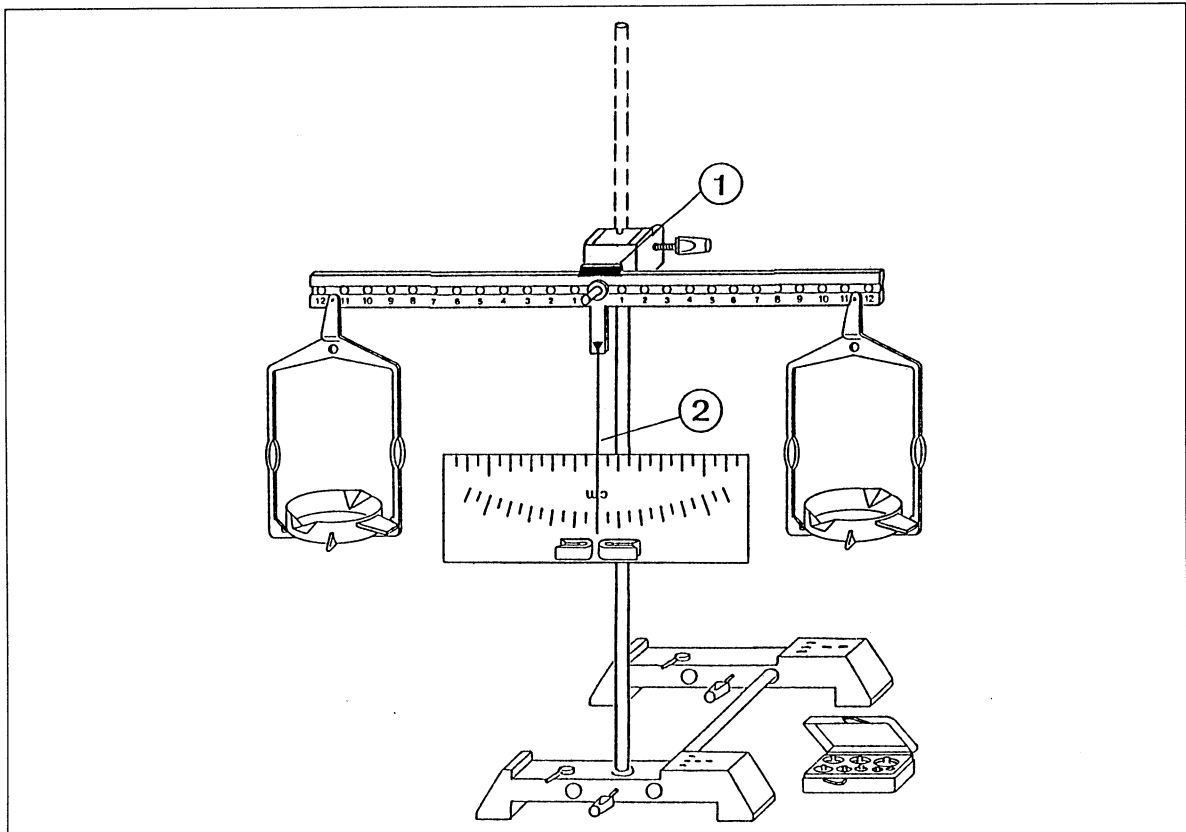

Fig. 1 Pair of scales
1. Assemble the stand bases and stand rods as shown in fig. 1.